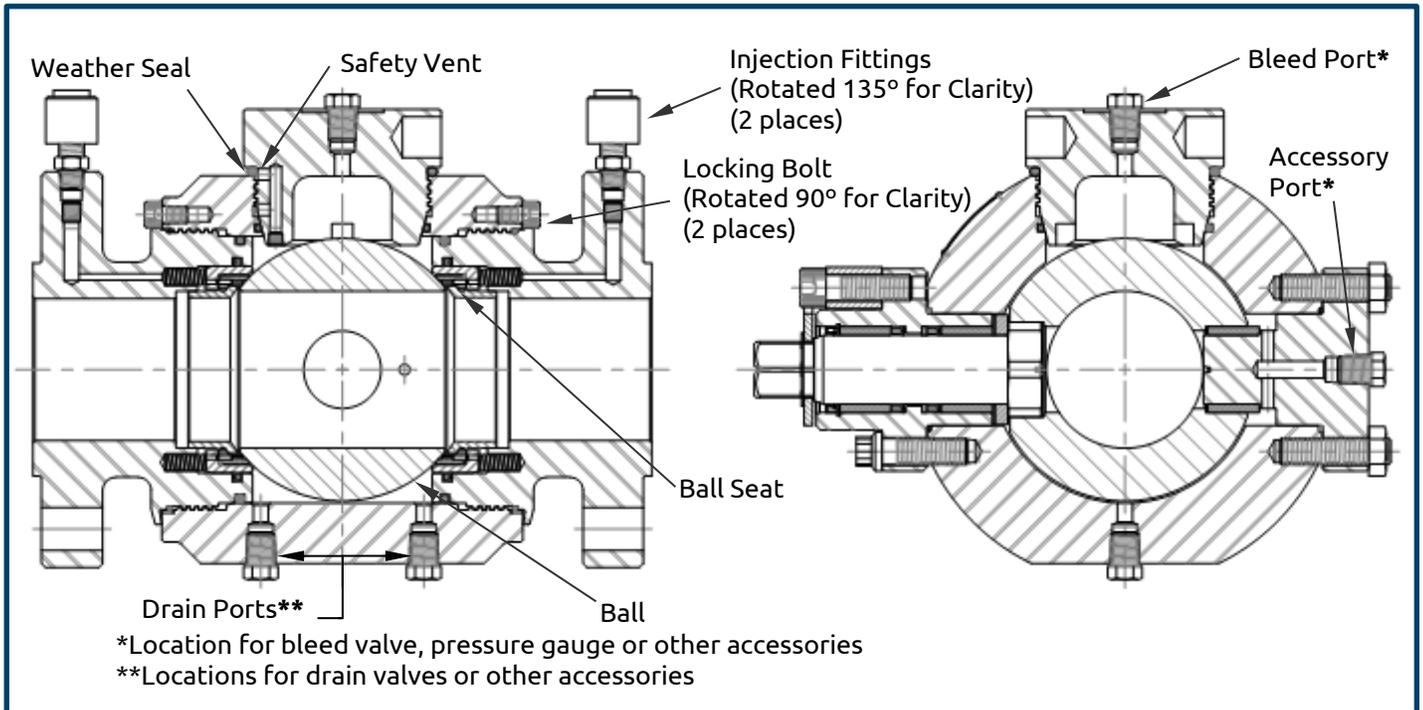
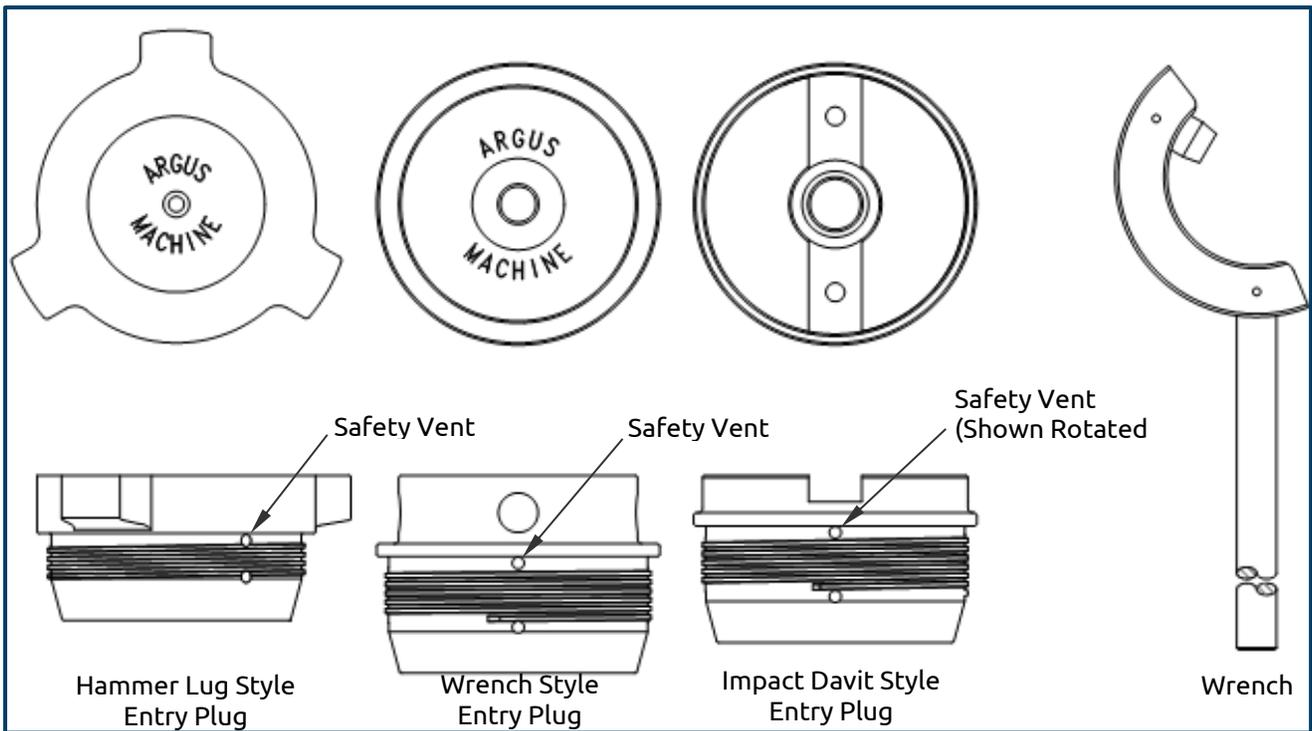

Figure 2: Pig Valve Model P
Figure 3: Entry Plug Styles
- Ensure that at least one of the bleed or drain ports in the Pig Valve has been equipped with a bleed valve (see Figure 2).
In the following section on Argus Pig Valve Operation, it is assumed that the orientation of the Pig Valve is such that the rotating stem / gear operator is facing the field technician and the flow is “left to right” for pig sending and receiving. Refer to Figure 3 – 5.
4. Slowly loosen entry plug (refer to Figure 3 to determine style of entry plug) by rotating counterclockwise using a “non-spark mallet”, “wrench” or “impact davit”. Observe the safety vent area (covered by the weather seal) at the top of the threads on entry plug (see Figure 2). If there is any media flowing from this area when the entry plug is being loosened, immediately re-tighten entry plug. Repeat steps 3 and 4. If unable to bleed all pressure from body cavity refer to the “Troubleshooting” section in this manual.
3. Slowly loosen entry plug (refer to Figure 3 to determine style of entry plug) by rotating counterclockwise using the supplied entry plug wrench. Observe the safety vent area (covered by the weather seal) at the top of the threads on entry plug (see Figure 2). If there is any media flowing from this area when the entry plug is being loosened, immediately re-tighten entry plug. Slowly open bleed valve to valve bleeding pressure and draining fluid from Pig Valve main body cavity. If unable to bleed all pressure from body cavity refer to the “Troubleshooting” section in this manual.